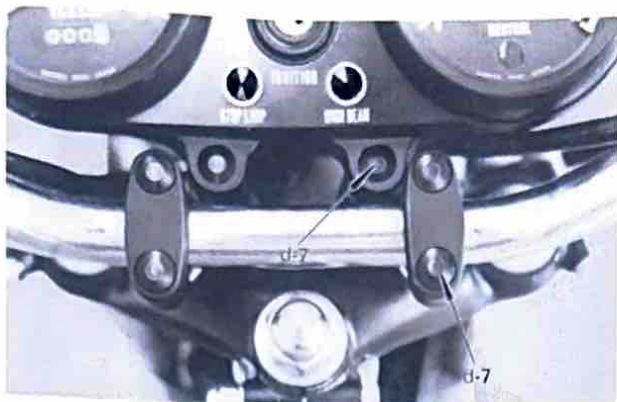

Fig. 24
17. a) First, thread the handle wires through the headlight body grommet, and install the handlebar assembly (4) using the two upper handle holders, four hexagon socket head bolts (removed in procedure 16) and four bolt caps (d-7) contained in the vinyl bag (d). (Fig. 24)